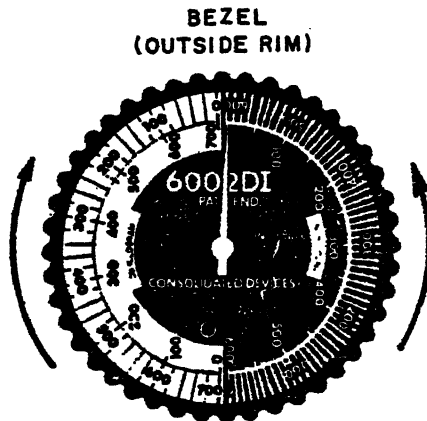

FIGURE 2.--Torque wrench dial.
*Torque values are marked inside the circle. Each mark is 10 inch-pounds. See figure 2.